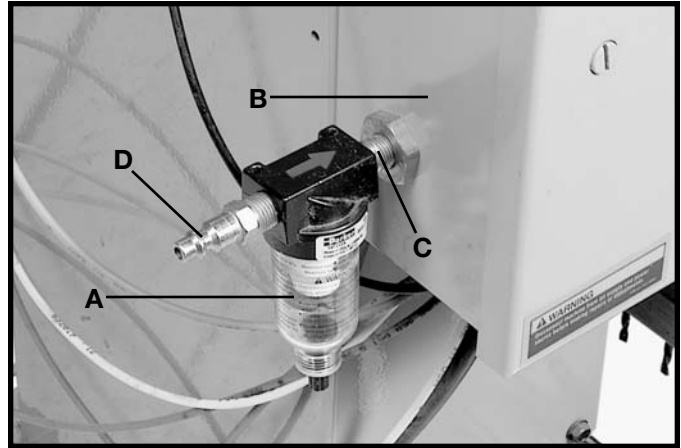

Fig. 34
Thread air filter (A) Fig. 34, onto threaded stud (C) on side of air and electric control box (B) as shown. A 1/4" female pipe thread is supplied on both sides of the air filter for connecting the air filter to the threaded stud as shown, and for connecting air to the machine. **NOTE:** An air flow directional arrow is supplied on the filter to help insure correct assembly. **NOTE:** Quick connect (D) is not supplied with the machine.